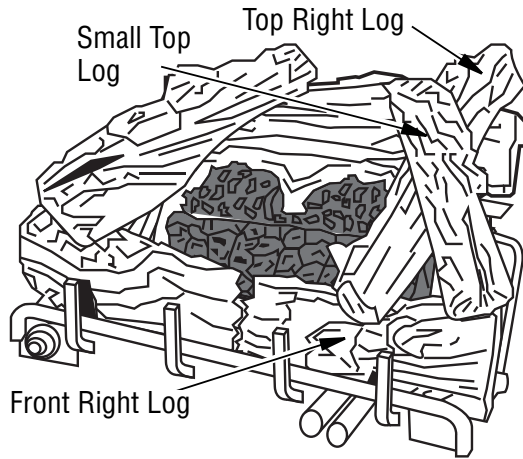

Figure 28 - Installing Log
6. Place the small top right log as shown in **Figure 28**. The bottom of the log is shaped to fit onto the recessed areas of the top right log and the front right log. The recessed areas are painted yellow.